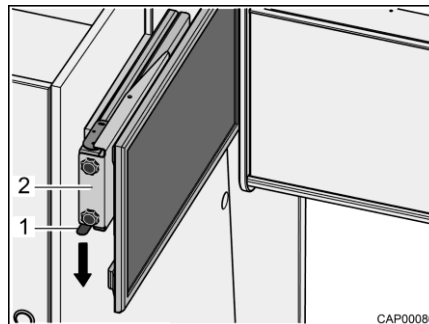

Fig. 36 Pull-out with flat screen
- Press catch spring (Fig. 36,1) downwards and pull pull-out (Fig. 36,2) with flat screen out horizontally towards the centre of the vehicle.
- Push the pull-out (Fig. 36,2) with flat screen horizontally as far as it will go. The catch spring (Fig. 36,1) engages audibly.